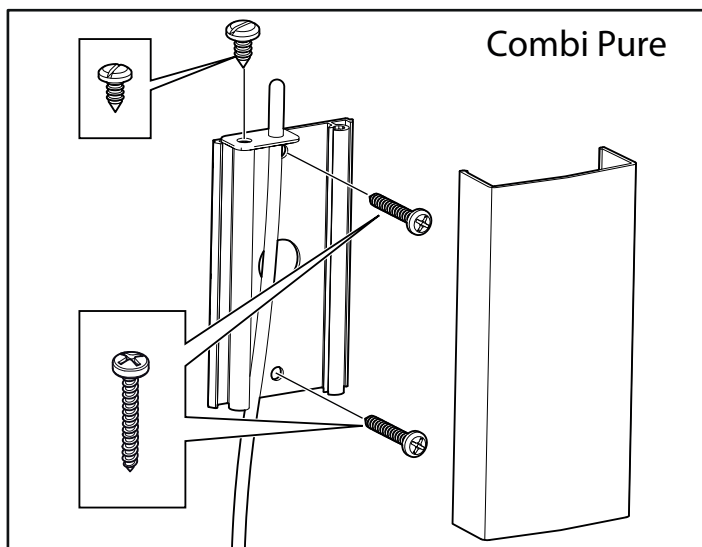
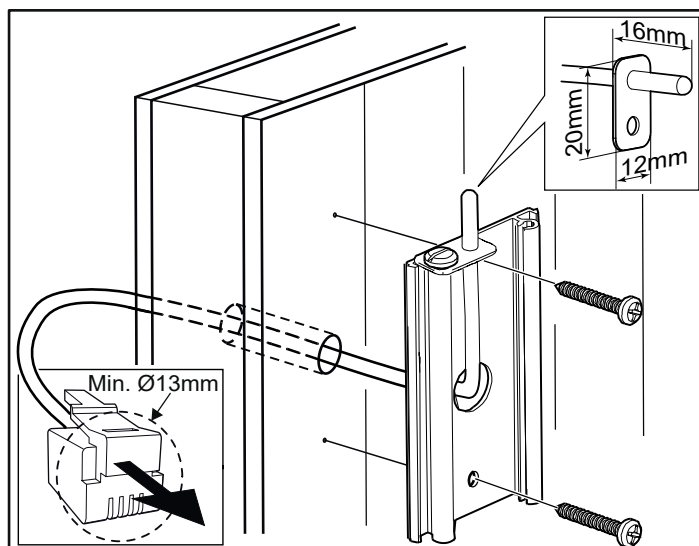

Figure 14: Installing the sensor - Combi Pure
Figure 16A: Wiring through the wall. The example shows the sensor for Combi Pure.
12. Install the sensor on the wall see Fig 14 and 15. The thermistor wire may also be passed through the wall see Fig 16A and 16B. Seal any holes in the wall behind the sensor. The thermistor wire may be extended outside the sauna using low voltage wire (2-, 4-lead).